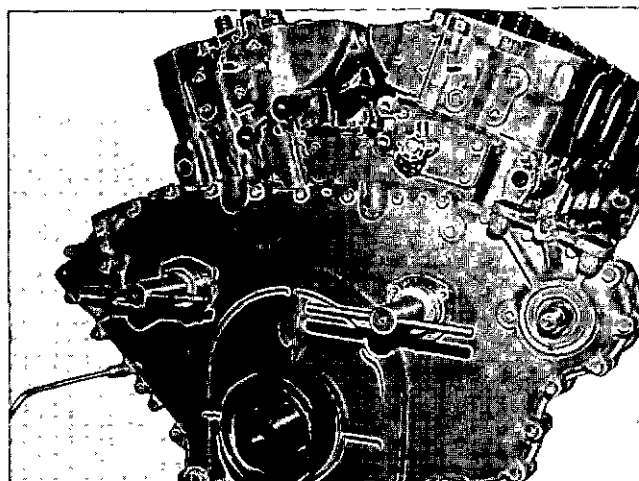

Fig. 14-1-50, V414150. ST-575 Guide Mandrels, installed
6. Install ST-757 Guide Mandrels through camshaft thrust plate bores and over nose of camshafts. Fig. 14-1-50. The gear case cover may have to be shifted to permit installation of ST-757 Guide Mandrels.